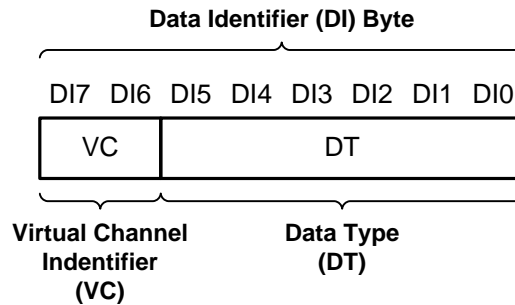

图 22. CSI-2 Data Identifier Structure
The DS90UB960-Q1 MIPI CSI-2 protocol interface transmits the data identifier byte containing the values for the virtual channel ID (VC) and data type (DT) for the application specific payload data, as shown in 图 22. The virtual channel ID is contained in the 2 MSBs of the data identifier byte and identify the data as directed to one of four virtual channels. The value of the data type is contained in the 6 LSbs of the data identifier byte. When partnered with a DS90UB935-Q1 or DS90UB953-Q1 serializer, the Data Type is passed through from the received CSI-2 packets. When partnered with a DS90UB933-Q1 or DS90UB913A-Q1 the received RAW mode data is converted to CSI-2 Tx packets with assigned data type and virtual channel ID.